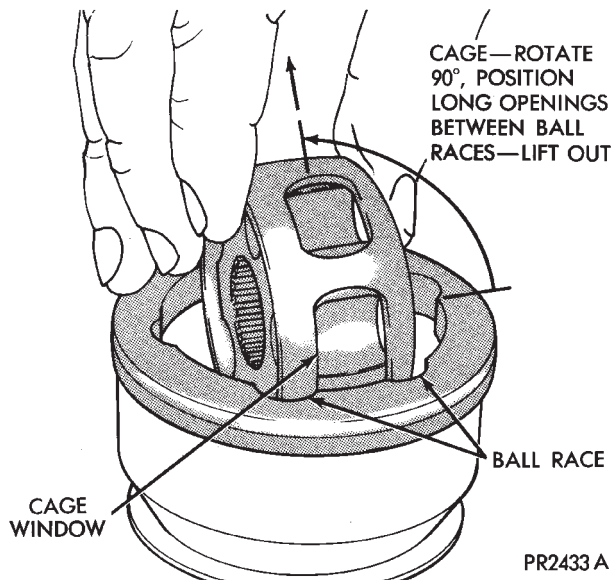

Fig. 7 Removing Cage & Cross Assembly from Housing
(11) Tilt the cage and inner race assembly vertically and position two opposing cage windows in area between the ball grooves. Remove the cage and inner race assembly by pulling upward away from the housing (Fig. 7).